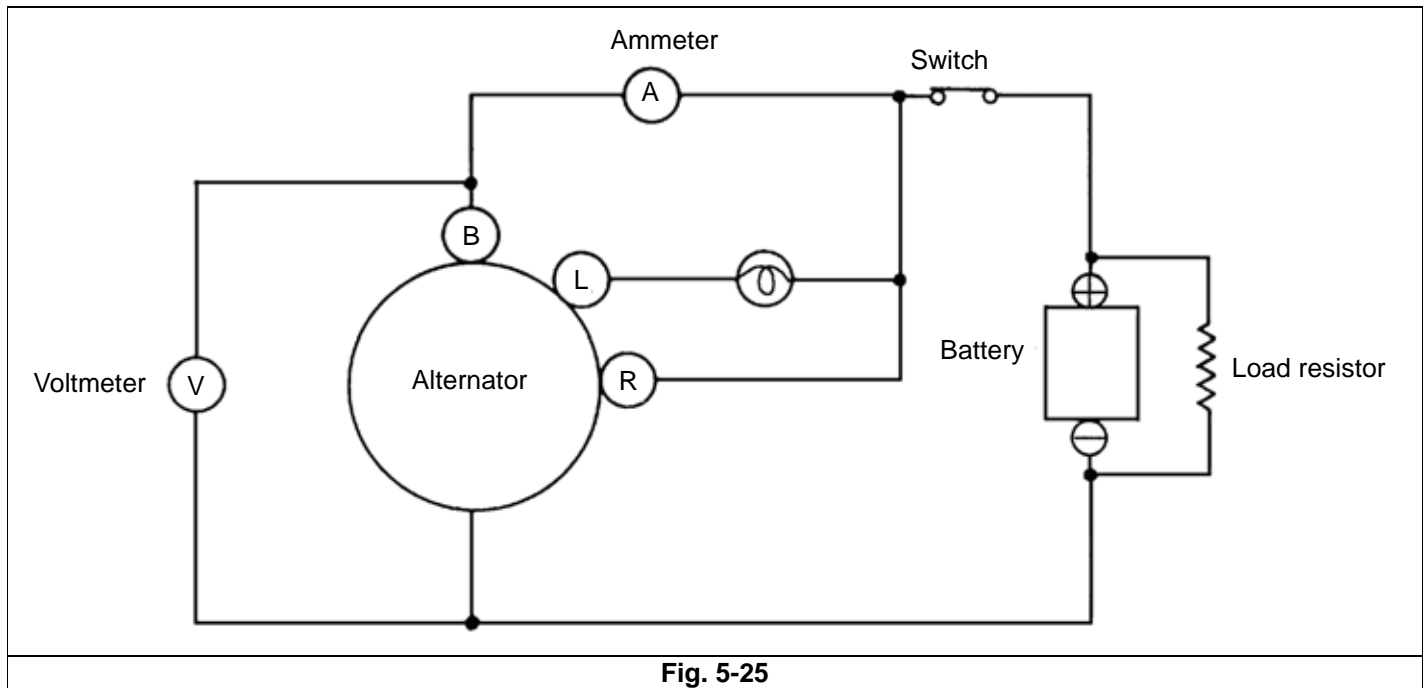

Fig. 5-25
1. Make connection as shown in the page 5-10, Fig. 5-25, except leave the load resistor disconnected.